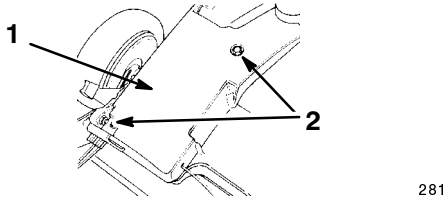

Figure 20
3. Remove the two bolts that secure the belt cover and remove the cover (Fig. 20).
1. With the engine turned off, remove the two bolts that secure the belt cover (Fig. 20) to the lawn mower housing.